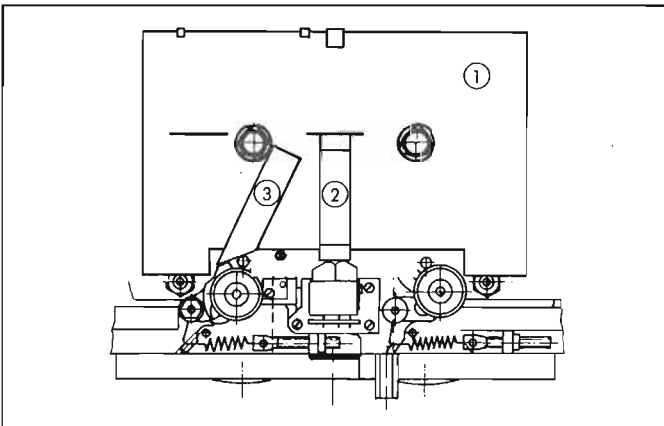
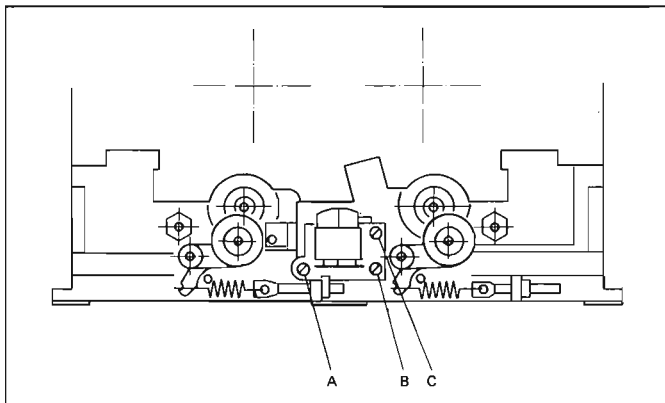

Fig. 3.5
Fig. 3.8
- Insert soundhead alignment gauge (part No. 46172) [1] (Fig. 3.5)
- Place slide for measuring the engaged length [2] with the square end against the soundheads (see Fig. 3.5)
- Adjust the height with the screws [B] and [C] in such a way that the slide [2] of the inserted gauge can be pushed through the tape guide (on the right of the soundhead) without lateral contact (Fig. 3.5).
- The movable headblock assembly is to be adjusted with screw [B] (Fig. 3.8) in such a way that the soundhead at the gap is perpendicular to the headblock gauge. (This can be checked with the slide [2] (Fig. 3.5). When the milled side faces the reproduce head, the air gap between the head and the slide should run parallel).
- Insert soundhead alignment gauge (part No. 46172) (Fig. 3.5).